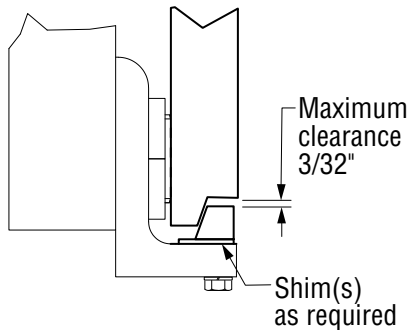

Figure 4-4, Lower Hook Clearance
9. Install the bolt-on lower hooks. Inspect clearance to the carriage on lower hooks. Adjust the lower hooks for a maximum clearance of $3/32$ " (see Figure 4-4). Tighten the bolts to **40-50 ft-lbs**.